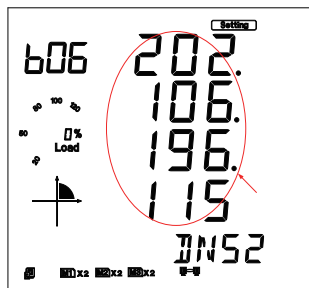

Fig 5-82
h). Set DNS Secondary Server in the sixth setting page, such as 202.106.196.115. Press the "V/A" key to go to the setting page. Users may set the parameters pointed out in Figure 5-82. The cursor starts at the first digit. After setting the DNS Secondary Server, press the "V/A" key to accept. Press the "P" key to go to the seventh setting page for the BACnet/IP port.